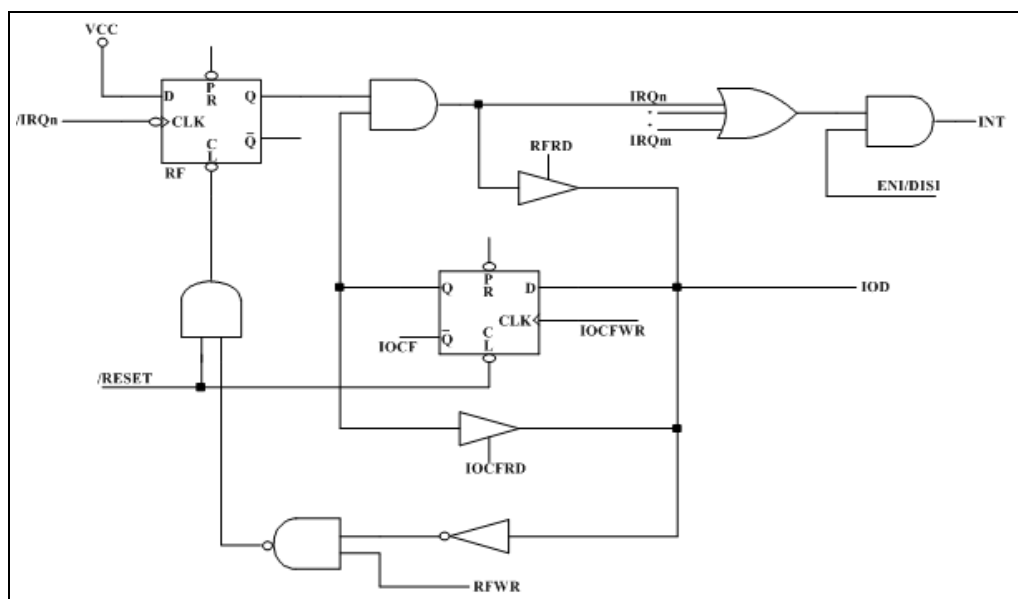

Figure 5-10 Interrupt Input Circuit
The flag (except ICIF bit) in the Interrupt Status Register (RF) is set regardless of the status of its mask bit or the execution of ENI. Note that the outcome of RF will be the logic AND of RF and IOCF (refer to Fig. 5-10). The RETI instruction ends the interrupt routine and enables the global interrupt (the execution of ENI).